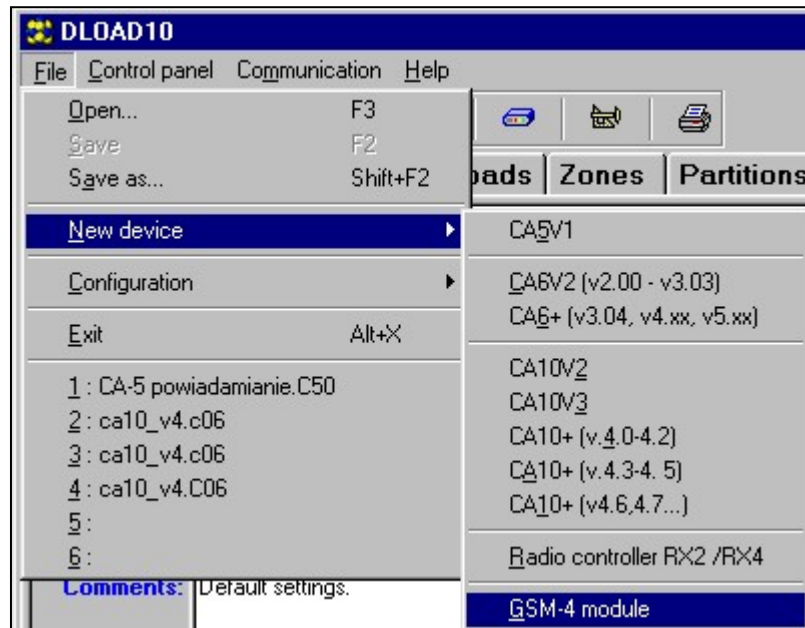

Figure 10.
1. Open the window with module data by selecting **File→New device→GSM-4 module** in the program menu (see figure 10).